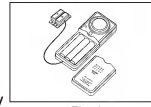

Fig. 1
1. Remove the battery cover of the unit and install the new (3) 1.5V AAA batteries (included) (See Fig. 1)